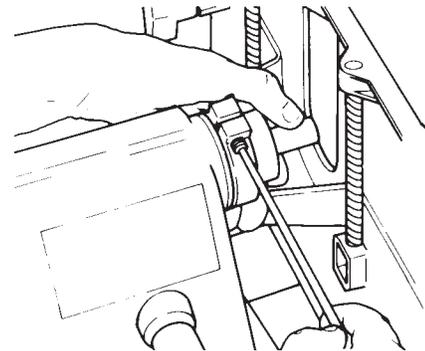

Figure C-85
- Mount the lower saw guard on the quill so that the stop screw below the collar butts against the stop collar on the quill. Align the ridge on the headstock with the slot in the collar. Tighten the screw on the collar. See Figure C-85. Loosen the two knobs and slide the guard cover to the right.